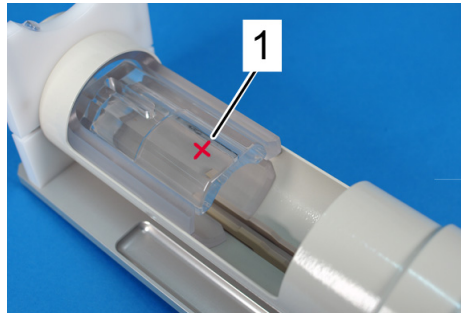

Figure 4.9: Mouse Position Gauge for testing the correct position of the mouse. The cross marks the center of the Coilhead.
The Mouse Position Gauge (Figure 4.9) displays the real situation of placing an imaging setup underneath the Coilhead. Therefore, it does have two functions. For safety reasons it has to be used to check for any possible collision of the imaging setup and the Coilhead. Furthermore, it can be used to check for the correct position of the imaging setup in relation to the Coilhead and the functionality of the lifting mechanism.
- The cross on the acrylic glass marks the centre of the Coilhead (Figure 4.9 (1)). It can be used to check for the correct position of the subject to be imaged in relation to the Coilhead.